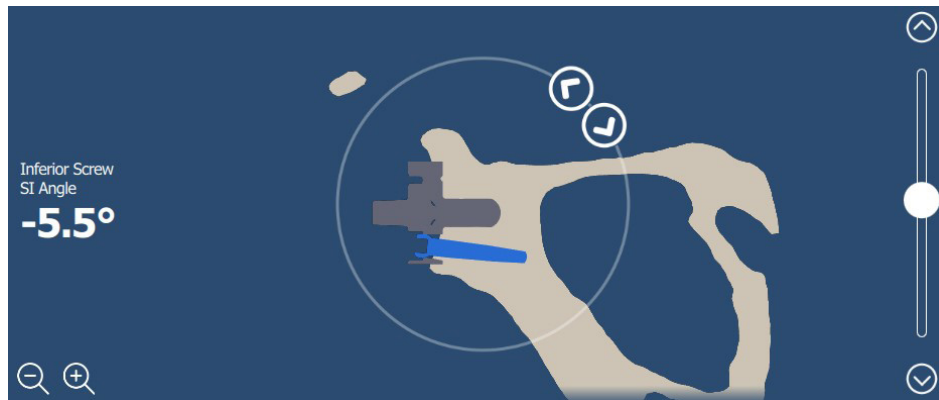

Figure 41 - Angular adjustment of the peripheral screws in the 2D views
If one of the peripheral screws is selected and the user clicks on one of the 2D views, a manipulator allowing angular adjustments of the screw is shown (Figure 41). The screw selected is highlighted in blue.
The two arrows contained in white circles (Figure 41) allow adjustment of the peripheral screw angle. The current screw supero-inferior (SI) angle is displayed in the coronal 2D view, on the lateral side of the bone. The current screw antero-posterior (AP) angle is displayed in the transverse 2D view, on the lateral side of the bone.